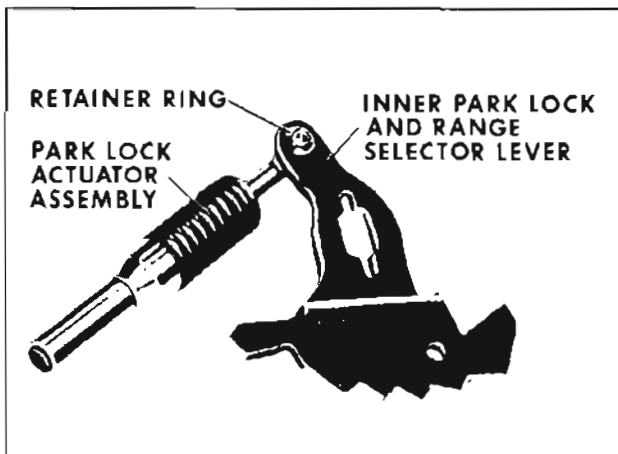

Fig. 6-412 Assembling Actuator
3. Assemble park lock actuator assembly to inner park lock and range selector. (Fig. 6-412)